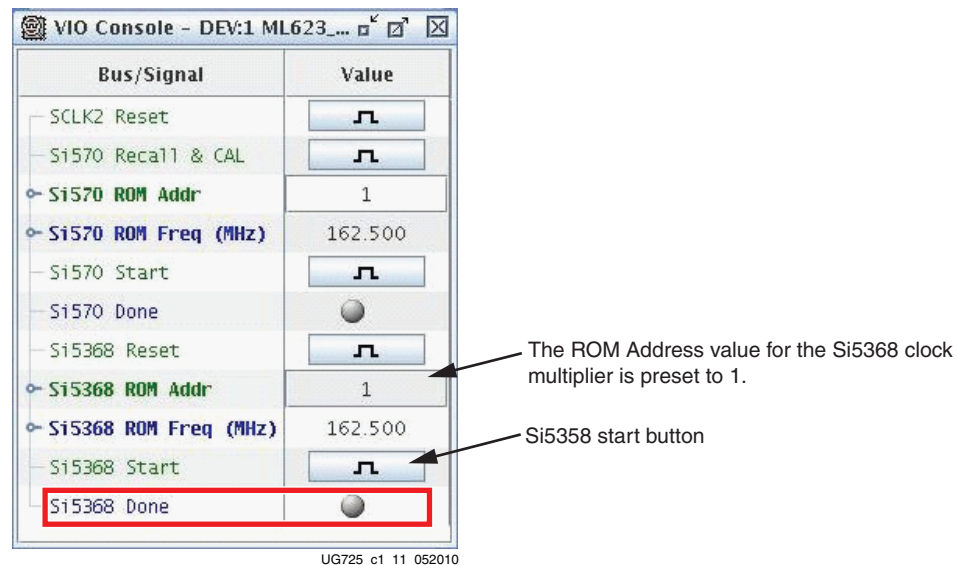

Figure 1-11: VIO Console
2. Having selected the VIO Console, click the **Si5368 Start** button (Figure 1-11). A transition arrow flashes ON/OFF to the right of **Si5368 Done** when the command is complete.